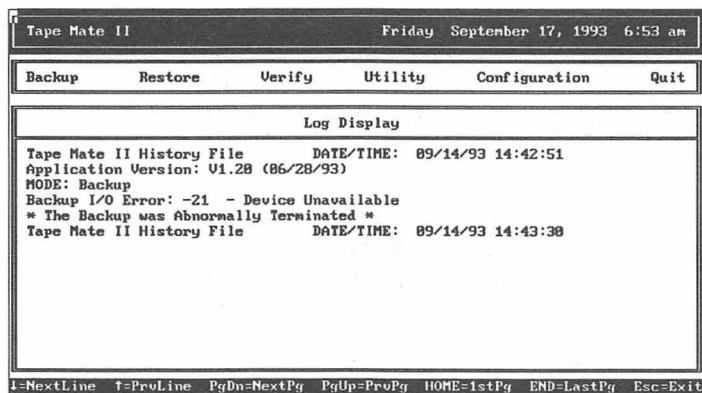

Figure 54 Log History File
- 3 Select **No** to review the contents of the file on screen. Select **Yes** to print to a printer connected to LPT1. Verify that the printer has power, is on-line, and has paper. *Figure 54* illustrates a log history file.